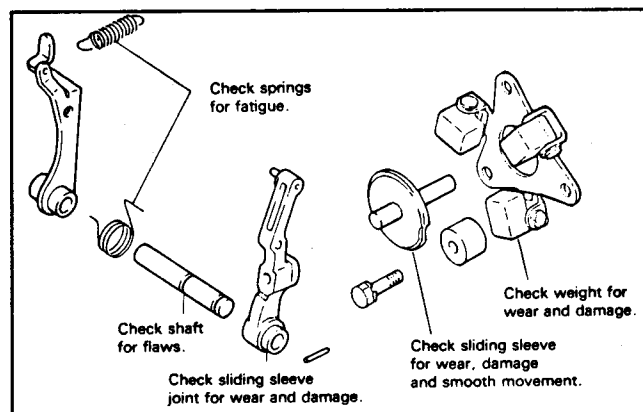

Figure 74
8. Check the governor parts for wear or damage (Fig 74). Replace parts as necessary.